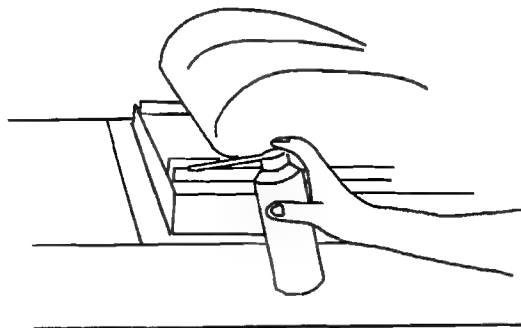

FIGURE 55: LUBRICATING THE SEAT RAILS
2. Apply spray lubricant to the portion shown in Figure 55.